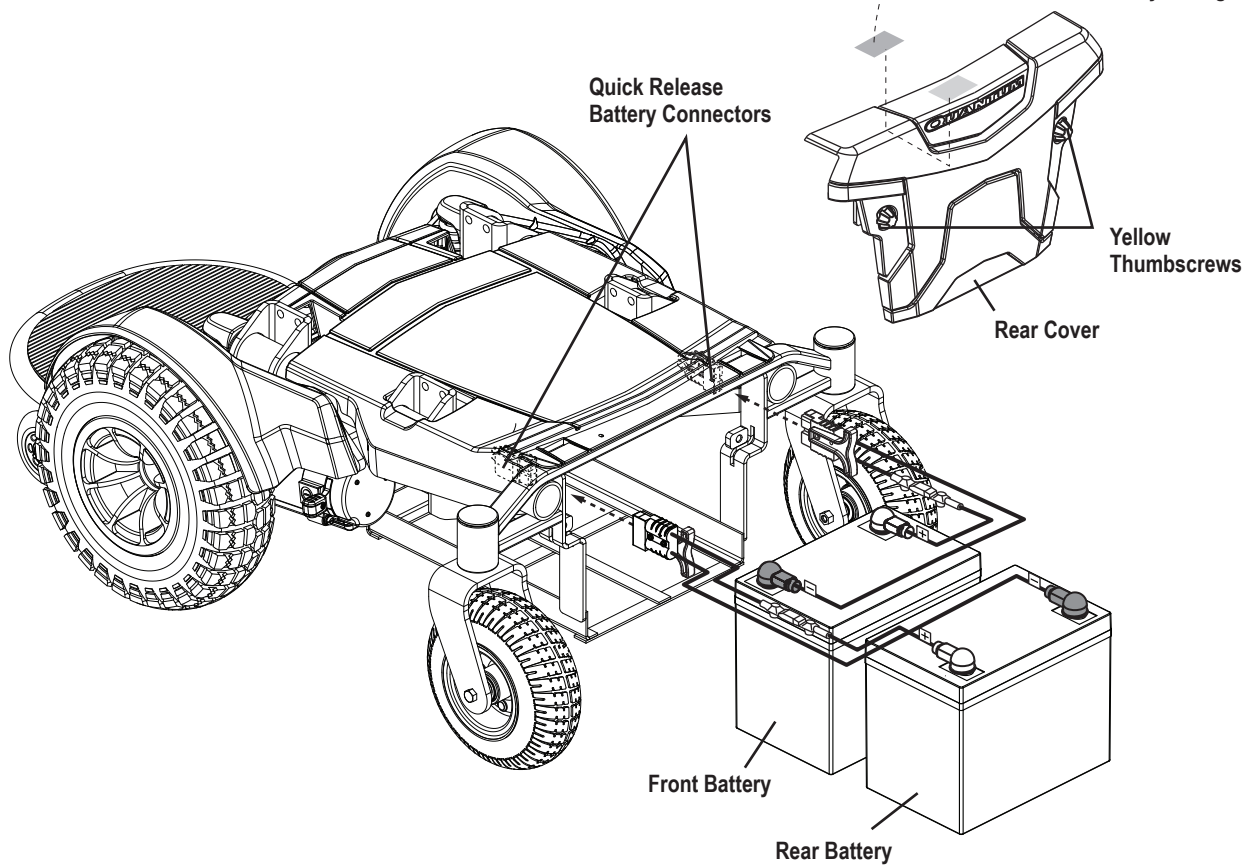

Figure 19. Battery Installation
3. Loosen the yellow thumbscrews (**see figure 19**) and remove the rear cover.
7. Connect the battery harness to the new front battery according to the battery wiring diagram. **See figure 19.**
8. Connect the battery harness to the new rear battery according to the battery wiring diagram. **See figure 19.**